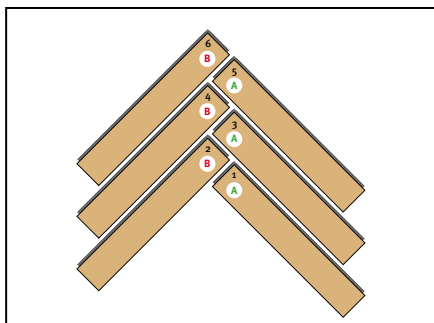
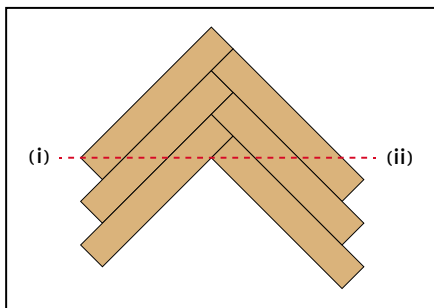

Figure 25
Figure 26
- Take A-planks and B-planks and position them as shown in (Fig 25).
- Install the planks precisely and in the order indicated by the numbers on the planks in (Fig 25). Carefully check that each individual plank is correctly aligned and engaged. Mark a line from points (i) to (ii) as illustrated in (Fig 26), ensuring that a 45 degree angle is achieved.